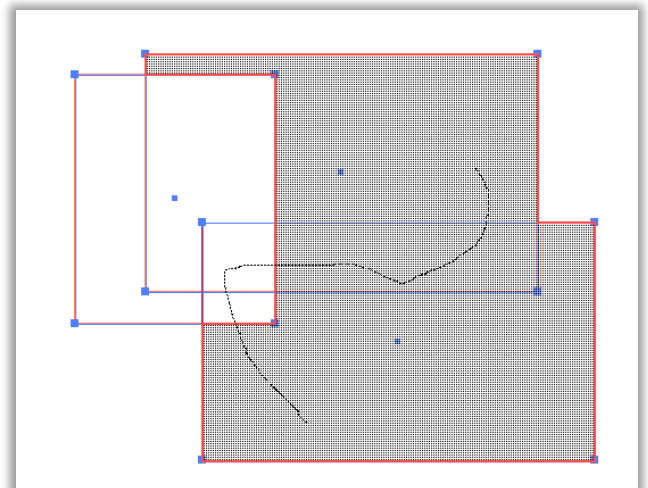

Figure 10: A demonstration of what the process of merging objects using the Shape Builder Tool looks like
- ii. Click and drag your cursor through all the sections you’d like to merge and avoid the sections you’d like to minus **(Figure 10)**